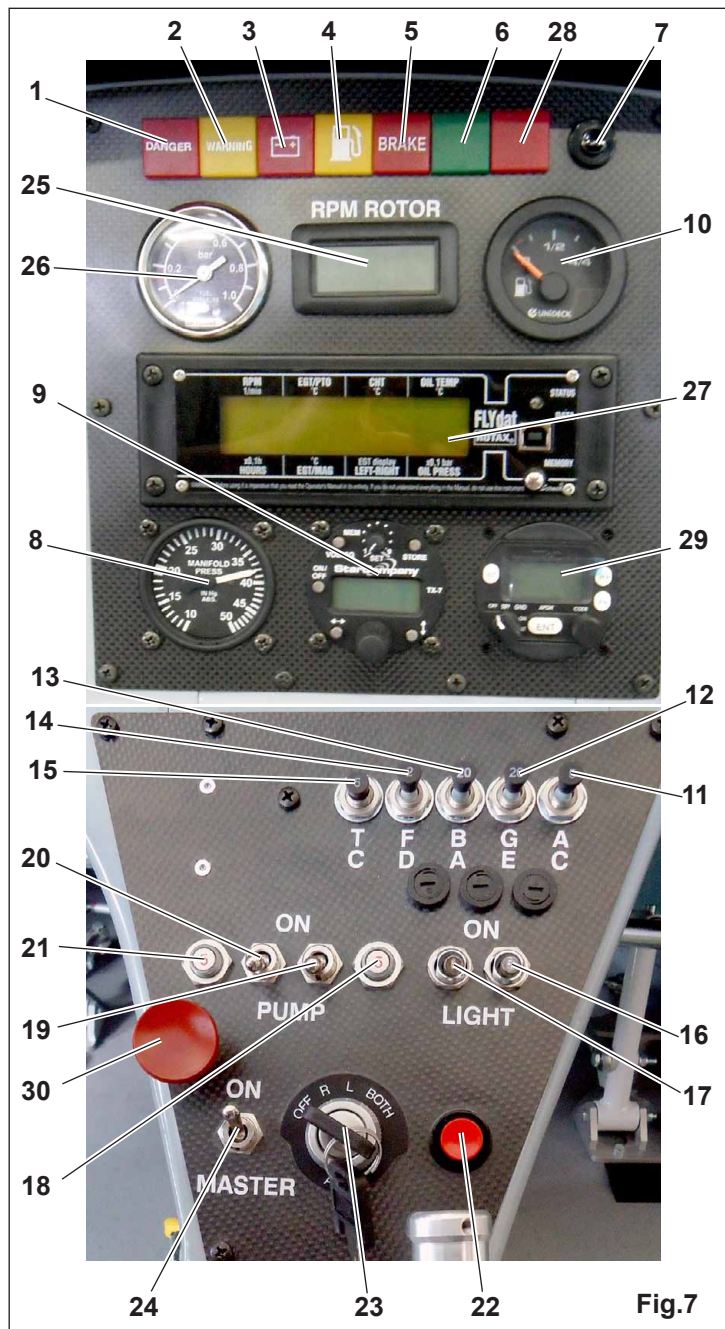

Fig.7
2.6.b Instruments - Central console (Fig. 7)